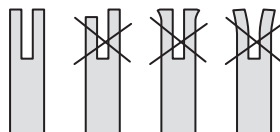

Fig. 39
- > Check the guide bar 'rail' for wear: Hold a ruler (straight edge) against the side of the guide bar and 'cutter side plates'. If there is a gap between the ruler and guide bar the guide bar 'rail' is normal. If there is no gap (ruler flush against the side of the guide bar) the guide bar 'rail' is worn and needs to be replaced with a new one of the same type (Fig. 39).
- > Turn the guide bar 180° to allow even wear, thereby extending the life span of the guide bar (5).
- > Refit the saw chain (4) and the guide bar (5) as described under "Assembly".